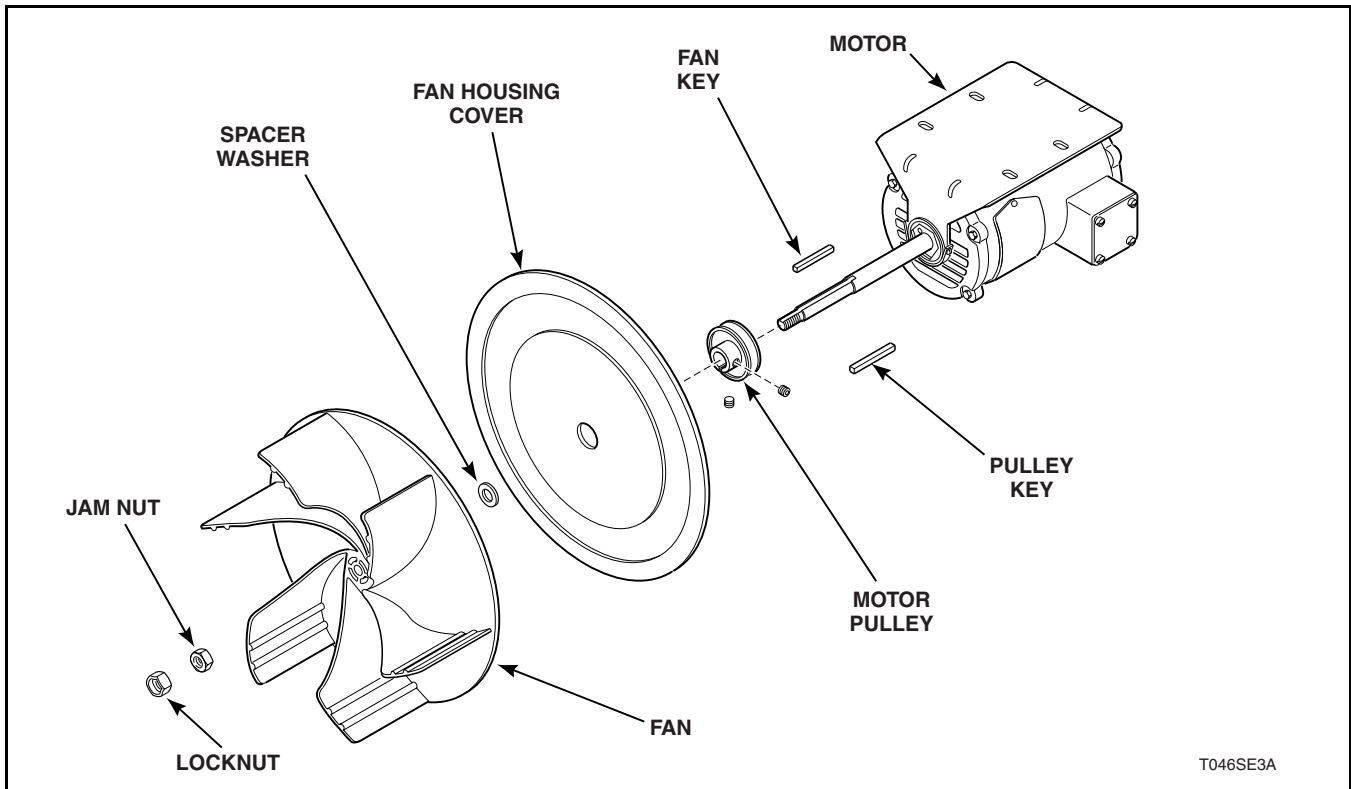

Figure 36
- Remove locknut and jam nut holding fan on motor shaft. Refer to *Figure 36*. Pull fan off motor shaft.
- Remove spacer washer from motor shaft. Refer to *Figure 36*.
- Loosen two setscrews holding motor pulley to motor shaft. Refer to *Figure 36*. Remove motor pulley.